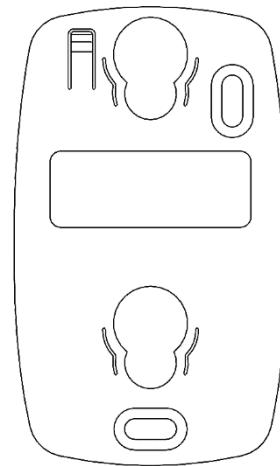

FIGURE 3 - MOUNTING PLATE
1. Place thermostat mounting plate (**FIGURE 3**) against the wall where thermostat will be mounted orienting it as shown.
2. Affix mounting plate to wall using (2) #6 pan head screws (not provided) using wall anchors if appropriate.